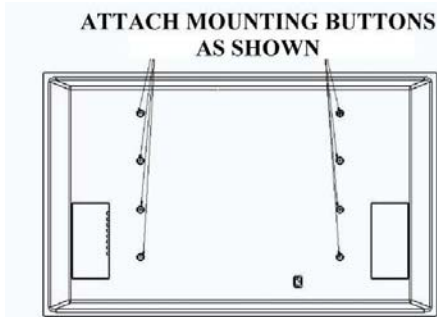

Figure 2
1. Attach mounting buttons to plasma using one 10-24 x .5 FH undercap screw per mounting button (Figures 2 & 3).